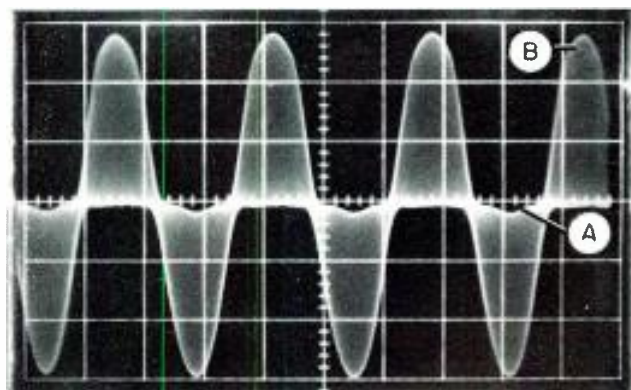

Figure 7. Notch (A) and distorted peaks (B) resulting from overload in stereo generator. Note difference of this waveform from that of Figure 8A.
**Caution:** To avoid overload when feeding the stereo generator, remember to reduce the input level as frequency is increased to fit under whatever pre-emphasis curve is used. FIGURE 7 reveals an overload condition in the encoder. Note the distorted peaks and the "notch" which indicate overload. Also note the difference in waveform from that of FIGURE 8A which indicates  $L + R$  and  $L - R$  gain differences.